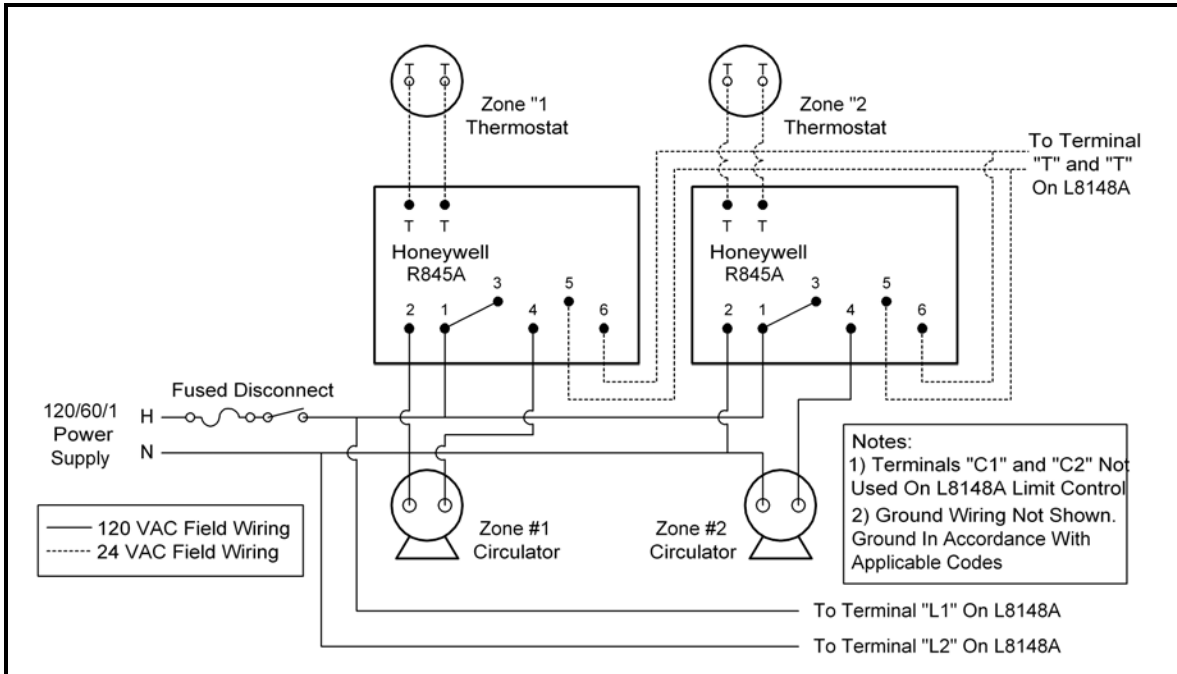

Figure 35. WIRING DIAGRAM, ZONE WIRING USING HONEYWELL V8043F VALVES (FACTORY BOILER WIRING NOT SHOWN –SEE FIGURE 33 OR 34)
- 1) Multiple Circulator Zones—Figure 35 shows wiring for two or more circulator zones using Honeywell R845As. One R845A is required for each circulator zone. Circulator terminals “C1” and “C2” on the L8148A are not used. A DPST Honeywell RA832A may be substituted in place of the R845A using the “X” and “X” terminals in place of the “5” and “6” terminals on a R845A. A call for heat from any thermostat will energize the DPST relay in that zone’s R845A. When this relay is energized, electrical continuity is created between terminals 3 and 4, energizing the circulator for that zone. At the same time, electrical continuity is created between terminals 5 and 6 on the R845A, creating a current path from terminal “T” to “T” on the L8148A. Assuming that the supply water temperature is below the high limit setting, the normal ignition sequence will be initiated.